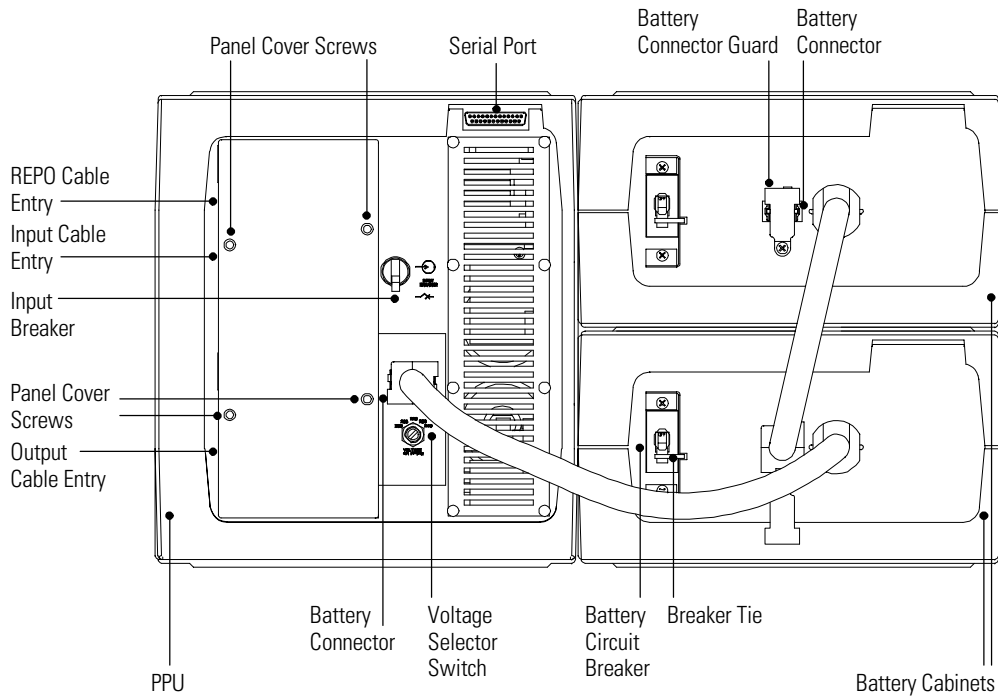

Figure 8. UPS with Hardwired PPU Rear Panel
2. Verify the input breaker on the PPU rear panel is in the OFF (O) position (see Figure 8).
3. Verify the circuit breaker on all battery cabinets is in the OFF (O) position.